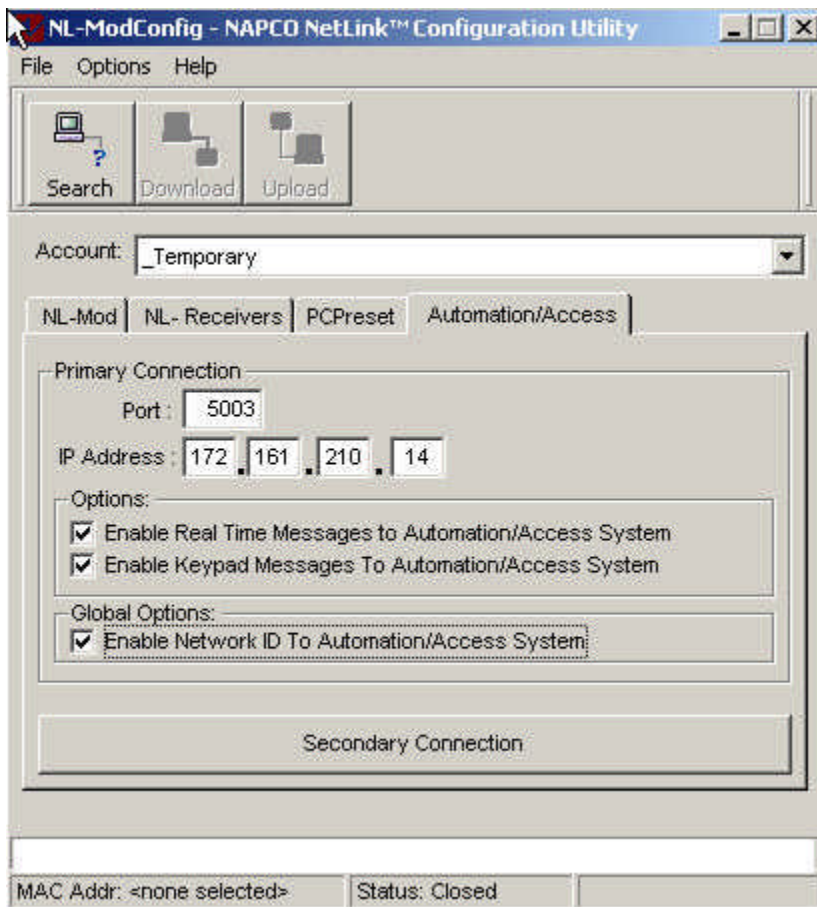

Figure A6.
7) Click on the **Automation/Access** tab. Refer to figure A6.